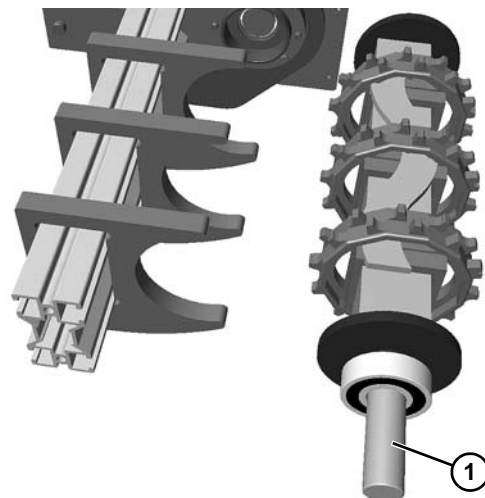

Figure 69
11. Remove shaft assembly (**Figure 69, item 1**).